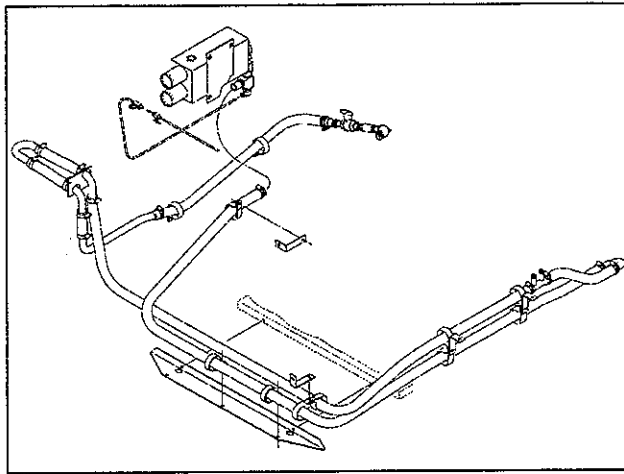

Figure 2—Engine Compartment Heater Piping
2. Shut all engine heater gate valves or clamp close all heater hoses as close to the engine as possible. (See Figure 2—Engine Compartment Heater Piping.)
8. Loosen bleeder valve located in heater hose line. (See Figure 2—Engine Compartment Heater Piping.)